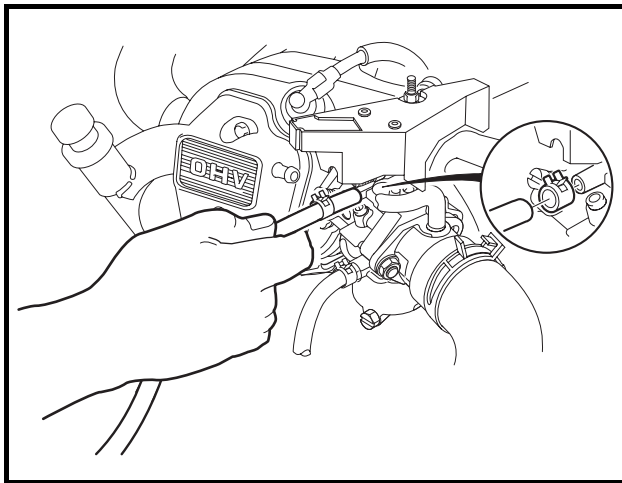

Figure 16-54 Carburetor Tube
29. Connect carburetor vent tube to carburetor and secure with hose clamp (Figure 16-54, Page 16-21).